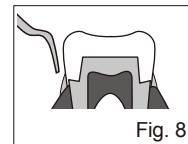

Fig. 8
- b) Remove excess cement with a scaler (Fig. 8).